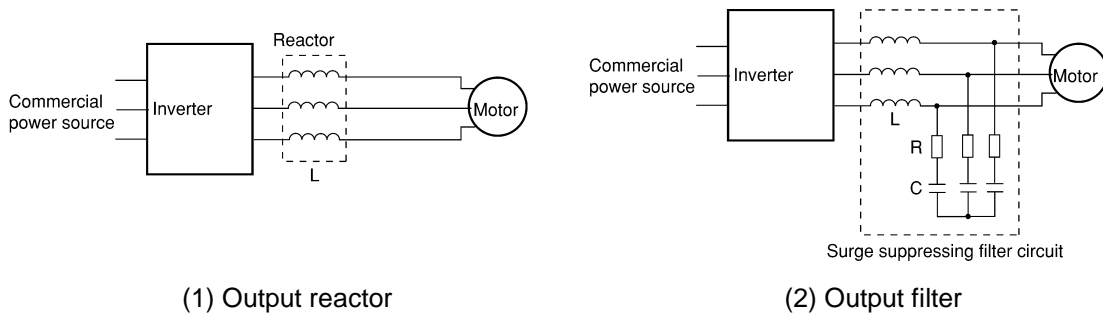

Figure 4 Method to Suppress Surge Voltage
(1) Output reactor
If wiring length is relatively short the surge voltages can be suppressed by reducing the voltage rising (dv/dt) with installation of an AC reactor on the output side of the inverter. (Refer to Figure 4 (1))
(2) Output filter
Installing a filter on the output side of the inverter allows a peak value of the motor terminal voltage to be reduced. (Refer to Figure 4 (2))